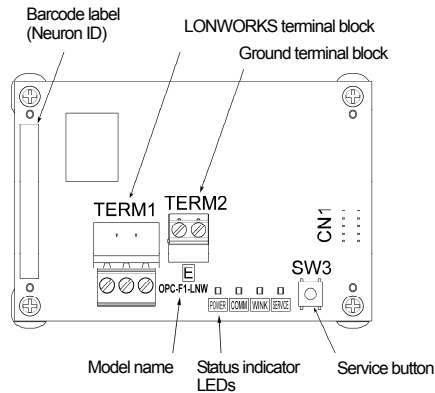

Figure 1 Front of the Card
- (1) A LONWORKS interface card is contained in the package.
- (2) The card has not been damaged during transportation—no defective electronic devices, dents, or warp.
- (3) The model name "OPC-F1-LNW" is printed on the card. (See Figure 1.)
- (4) A barcode label (representing Neuron ID) is attached to the card. Another barcode label (not attached to the card) comes with the card.